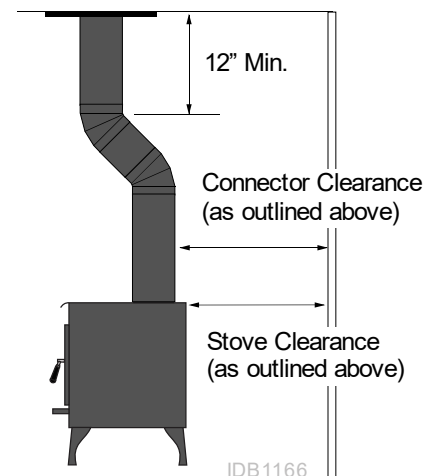

Figure 5
- If using offsets, use the connector clearance listed in Figure 5, **not the connector manufacturer's clearance.**